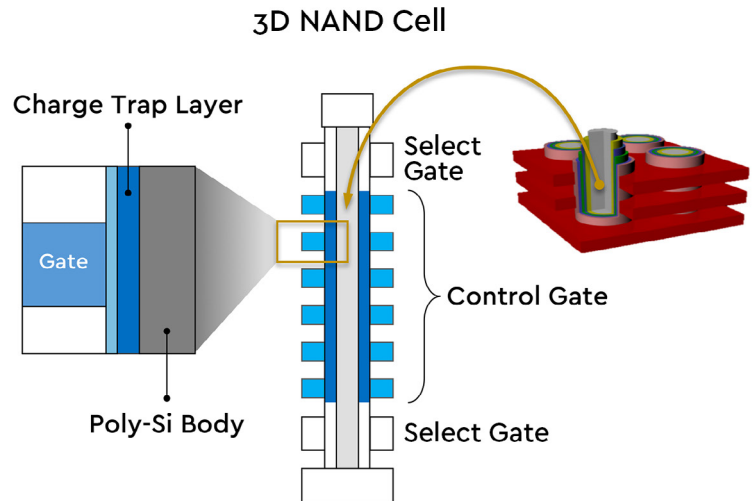

Figure 6: Cross-section of a 3D NAND Memory Cell
There are several features in Western Digital's 3D NAND technology that differentiate it from others. First of all, Charge Trap Layer (CTL) technology is used instead of Floating Gate (FG) which simplifies the architecture as well as the manufacturing process, and improves reliability. The non-conductive CTL acts as an insulator, reducing the number of errors while increasing reliability margins, overcoming the drawbacks associated with the conductive floating gate technology used in 2D NAND. Figure 6 shows a cross-section of a 3D NAND memory cell.